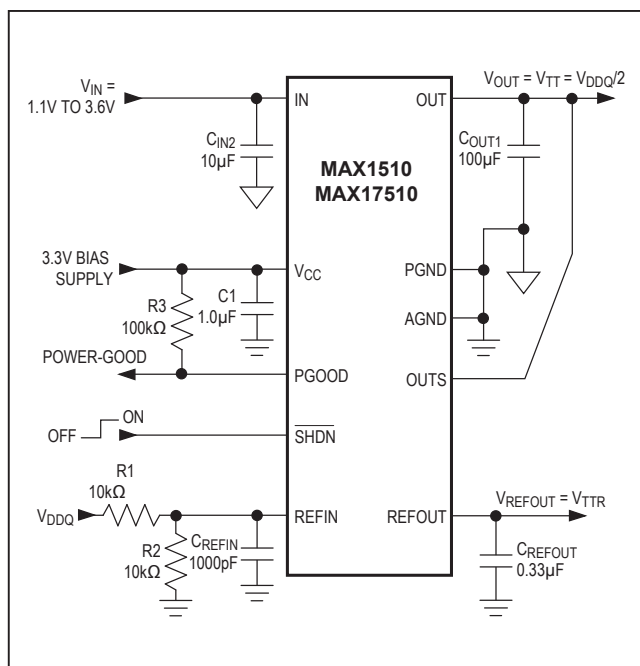

Figure 1. Standard Application Circuit
($V_{IN} = 1.8V$, $V_{CC} = 3.3V$, $V_{REFIN} = V_{OUTS} = 1.25V$, $\overline{SHDN} = V_{CC}$, circuit of Figure 1, $T_J = T_A = -40^\circ C$ to $+85^\circ C$ for MAX1510ETB, $T_J = T_A = -40^\circ C$ to $+125^\circ C$ for MAX17510ATB, unless otherwise noted. Typical values are at $T_A = +25^\circ C$.) (Note 1)
(Circuit of Figure 1. $T_A = +25^\circ\text{C}$, unless otherwise noted.)
The MAX1510/MAX17510 are low-voltage, low-dropout DDR termination linear regulators with an external bias supply input and a buffered reference output (see Figures 1 and 2). V_{CC} is powered by a 2.7V to 3.6V supply that is commonly available in laptop and desktop computers. The 3.3V bias supply drives the gate of the internal pass transistor, while a lower voltage input at the drain of the transistor (IN) is regulated to provide V_{OUT}. By using separate bias and power inputs, the MAX1510/MAX17510 can drive an n-channel high-side MOSFET and use a lower input voltage to provide better efficiency.
The MAX1510/MAX17510 regulate OUTS to the voltage set at REFIN, making the devices ideal for memory applications where the termination supply must track the supply voltage. Typically, REFIN is set by an external resistive voltage-divider connected to the memory supply (V_{DDQ}) as shown in Figure 1. The maximum output voltage of 1.5V is limited by the gate-drive voltage of the internal n-channel power transistor.